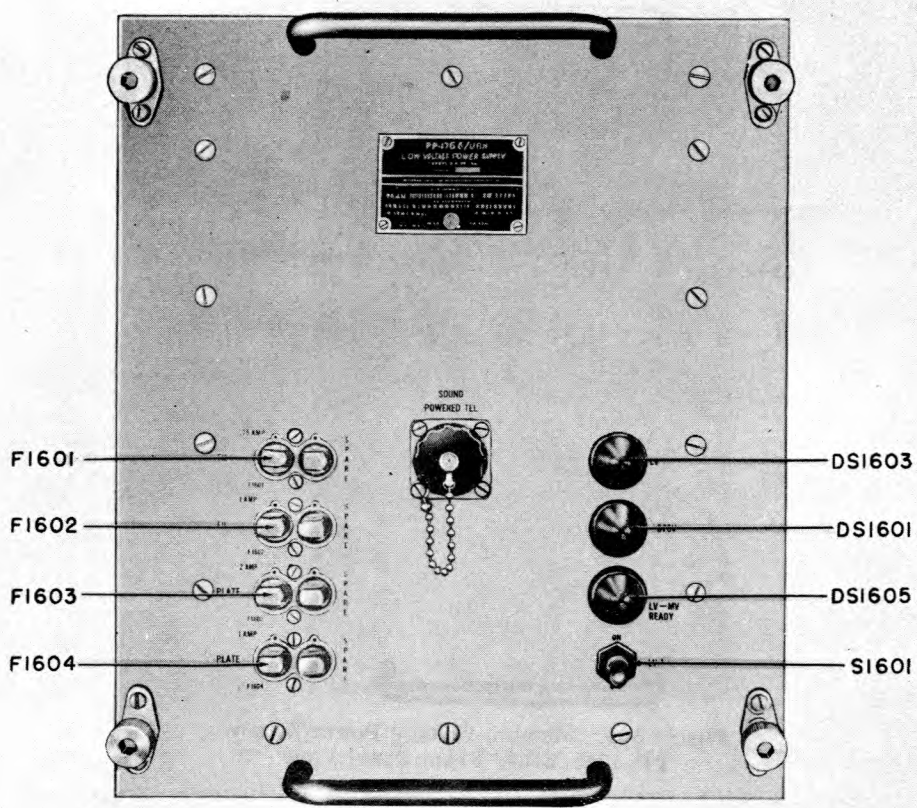
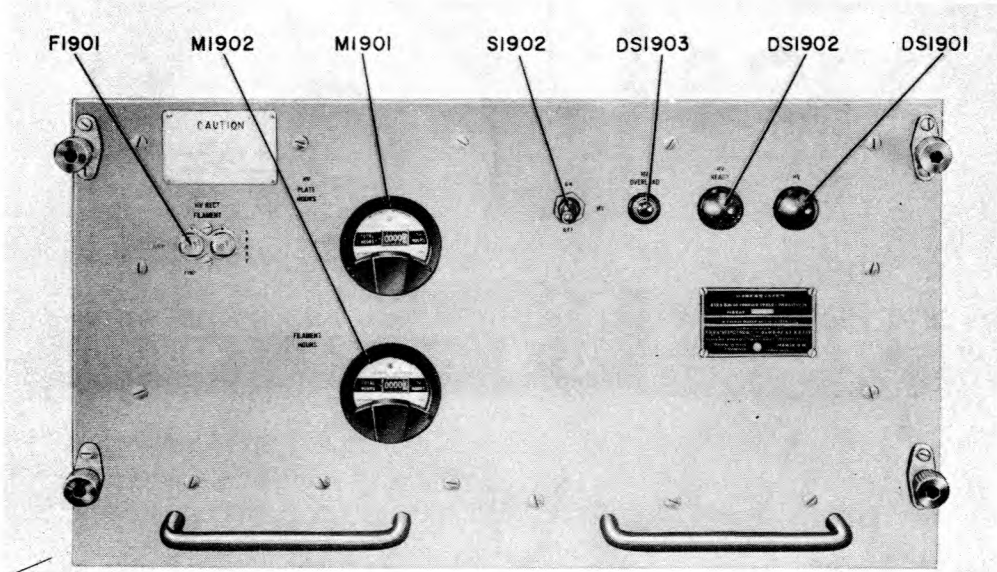
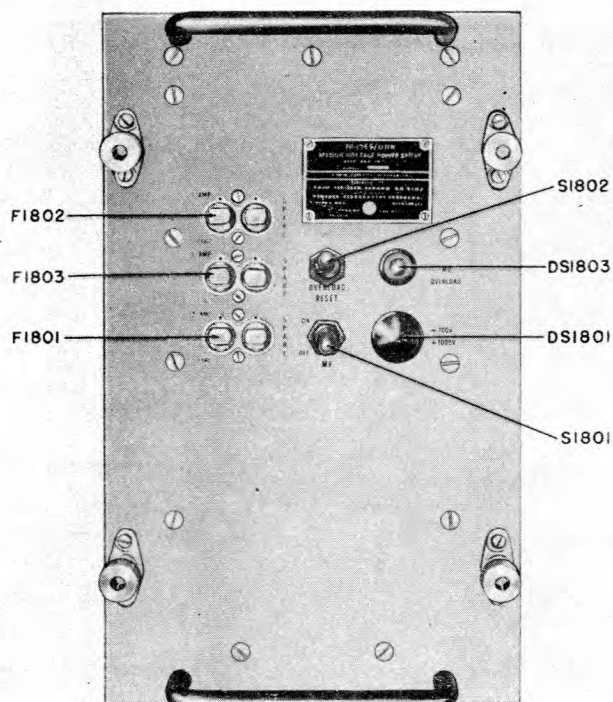

Figure 3-7. Low Voltage Power Supply PP-1766/URN, Front Panel View
Figure 3-8. High Voltage Power Supply PP-1763/URN, Front Panel View
Figure 3-9. Medium Voltage Power Supply
(a) Low Voltage Power Supply PP-1766/URN (figure 3-7).
(b) High Voltage Power Supply PP-1763/URN (figure 3-8).
(c) Medium Voltage Power Supply PP-1765/URN (figure 3-9).
LOW VOLTAGE POWER SUPPLY PP-1766/URN (figure 3-7)
HIGH VOLTAGE POWER SUPPLY PP-1763/URN (figure 3-8)
MEDIUM VOLTAGE POWER SUPPLY PP-1765/URN (figure 3-9)
Step 7. After LV-MV READY light DS1605 comes on, set LV switch S1601 on low voltage power supply panel (figure 3-7) to ON.
Step 8. Set MV switch S1801 on medium voltage power supply panel (figure 3-9) to ON. Five minutes will elapse from time that MASTER SWITCH is turned to STANDBY position before voltage is available for blue HV READY light DS1902 on high-voltage power supply panel. This lamp will light after 5-minute delay only if MASTER SWITCH, LV, and FIL ON switches are ON.
Step 9. When HV READY DS1902 is on, place HV switch S1902 on high voltage power supply panel (figure 3-8) at ON. The equipment is now fully energized and operating. Make sure that red HV lamp DS1901 is on.
When the MASTER SWITCH is at ON and the radio beacon is functioning normally, the following lamps will go on: MAIN POWER ON lamp DS1102, FIL ON lamp DS1101, and ANTENNA CONTROL ON lamp DS1103 on the control-duplexer panel (figure 3-5), LV-MV READY lamp DS1103 after a 1-minute delay, on the low-voltage power supply (figure 3-7), and HV READY lamp DS1902, after a 5-minute delay, on the high voltage power supply (figure 3-8).
The following lamps should not go on: MV OVERLOAD lamp DS1803 on the medium voltage power supply panel (figure 3-9), HV OVERLOAD lamp DS1903 on the high voltage power supply panel (figure 3-8), and BATTLE SHORT ON lamp DS1104 on the control-duplexer panel (figure 3-5).
The following lamps should also go on: POWER ON lamp DS501 on the radio receiver panel (figure 3-1), POWER ON lamp DS601 and ANTENNA CONTROL lamp DS602 on the coder-indicator panel (if the ANTENNA CONTROL lamp flashes, trouble in the antenna system is indicated), FILAMENT lamp DS1401 and OVEN lamp DS1403 on the frequency multiplier-oscillator panel (figure 3-3), FIL lamp DS1301 on the amplifier-modulator panel (figure 3-4), LV lamp DS1603 and -375 lamp DS1601 on the low voltage power supply panel (figure 3-7), HV lamp DS1901 on high voltage power supply panel (figure 3-8), and +1000V lamp DS1801 on the medium voltage power supply panel (figure 3-9).